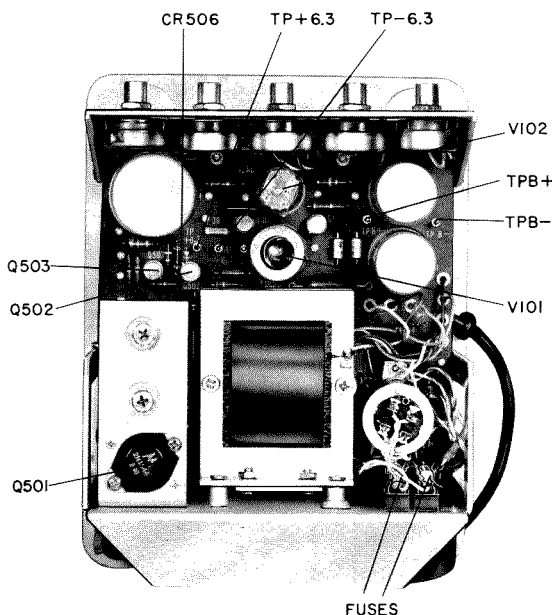

Figure 5-1. Rear view of Voltmeter.
Check that the instrument is connected to a power source of the correct voltage and frequency ratings. The pilot lamp should light when the instrument is turned on. If it does not, check (with an ohmmeter) that the lamp is not burned out. Next check the fuses, located at the left rear of the top side of the lower shelf (see Figure 5-1). Disconnect the power cord from the power source before attempting to check or replace the fuses.
point +6.3 and test point -6.3 on the etched board (see Figures 5-1 and 5-6). If the voltage is not correct, there is probably trouble in the low-voltage, transistorized, regulator circuit. It may be necessary to replace transistor Q502, Q503, Q501, or diode CR506, Figure 5-1.
5.3.3 HIGH-VOLTAGE POWER SUPPLY. The voltage from test point B+ to test point B- (see Figures 5-1 and 5-6) should be approximately 550 volts. This is a simple half-wave rectifier circuit; any troubles that occur in this section should be easily diagnosed. Note that an incorrect output voltage may be due to trouble in the circuit to which it supplies power.
5.3.4 MAIN CIRCUIT TROUBLES. Difficulties with the main dc amplifier circuit, such as failure of a tube, transistor, or other component, can be located by test-voltage measurements. Use a 20,000-ohms-per-volt test meter or a second Type 1806 Electronic Voltmeter. Set the MEASUREMENT knob to DC+ and the VOLTS FULL SCALE knob to 150. Short the red binding post to the gray, and connect the link from the gray to the metal binding post. The correct dc voltages, with respect to the circuit ground (gray binding post), are given in Table 5-1, below. (For locations of these test points, see Figures 5-1 and 5-6.)